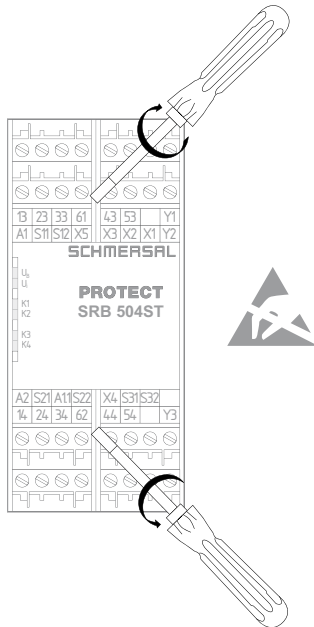

Fig. 2
### Opening the front cover (Fig. 2)
- Button S1 is located underneath the front cover of the safety-monitoring module (see Fig. 2 and 3).